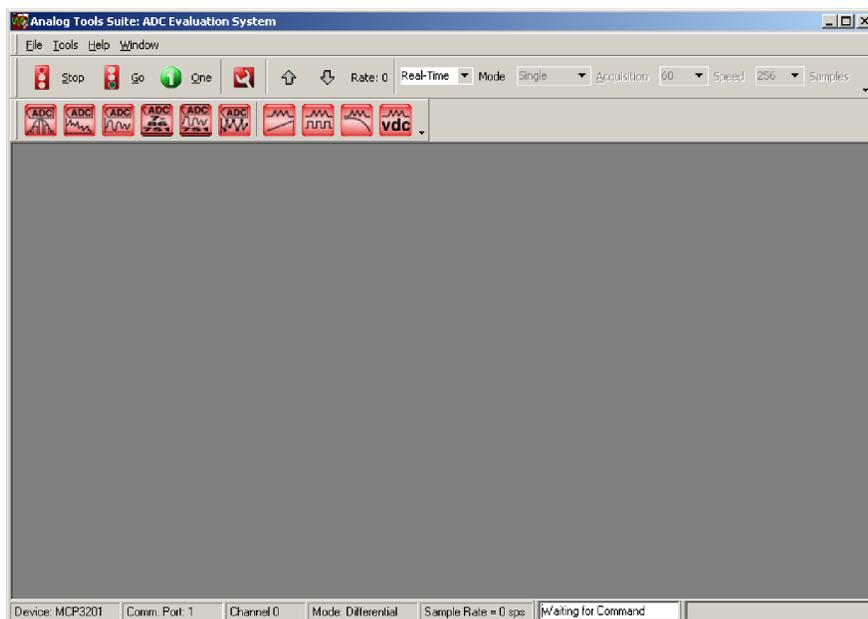

Figure 1.8: MXLAB Desktop
1. Start MXLAB by executing `MXLAB.EXE` or click on the MXLAB icon. You will see the MXLAB desktop (Figure 1.8). Chapter 6 describes how to use this program.